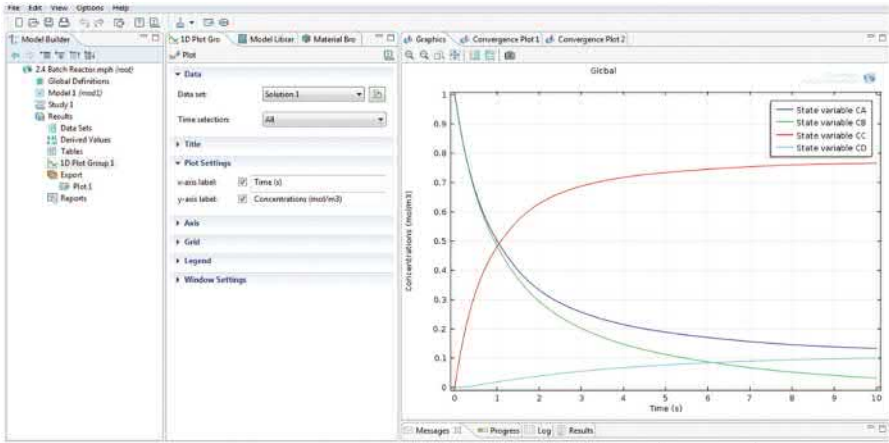

FIGURE 2.4 Concentrations as a function of time [solution to Equations (2.11)–(2.15)].
- Click on the *Compute (=)* button. A plot of *Concentrations versus Time* appears as shown in Figure 2.4.